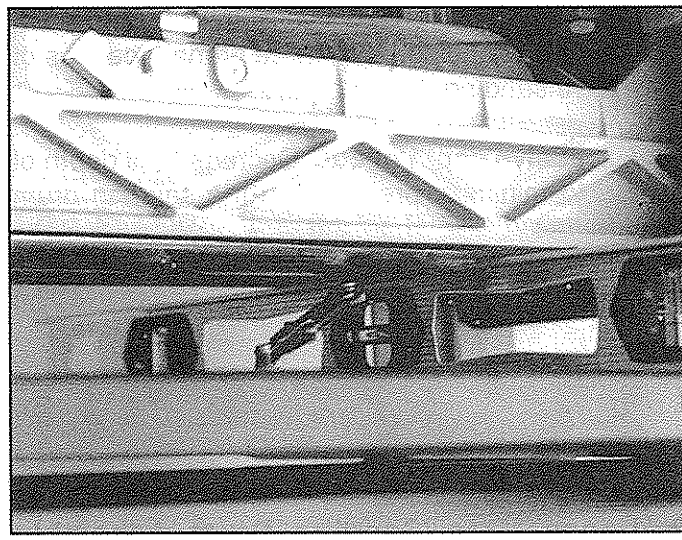

Figure 10
- 2. Check the sanding drum to conveyor table alignment by first removing the abrasive strip from the drum. The purpose of this adjustment is to achieve equal distances at point A and point B which will ensure that the drum is parallel to the feed table and provide uniform sanding. (See Figures 10 and 11.)